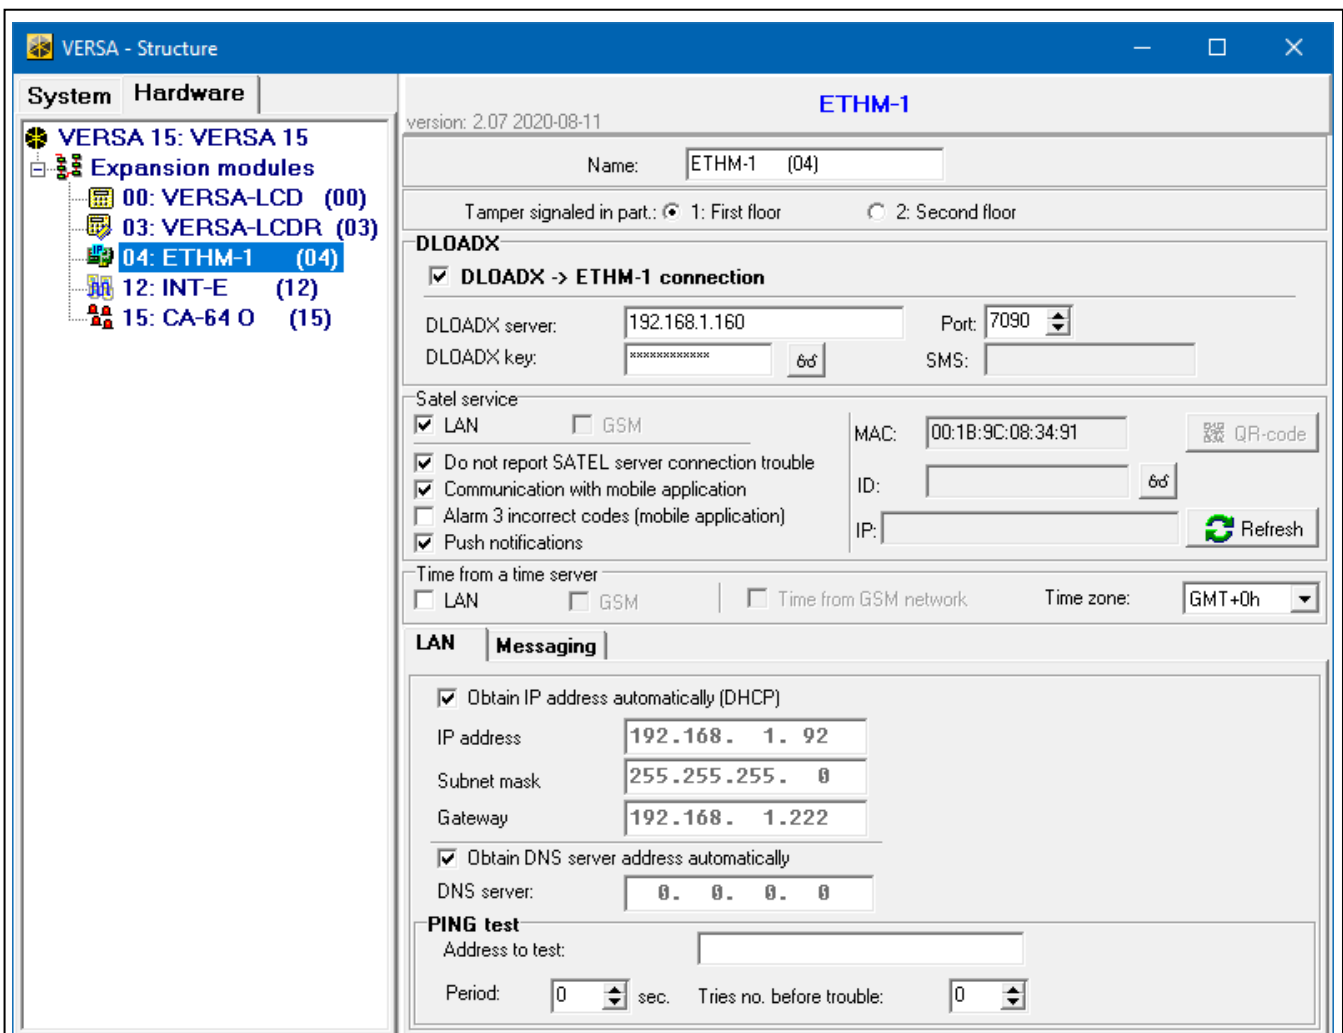

Fig. 12. DLOADX program: settings of the module connected to VERSA control panel.
- DLOADX program: →“Versa – Structure” window →“Hardware” tab →“Expansion modules” branch →[*module name*] (Fig. 12).